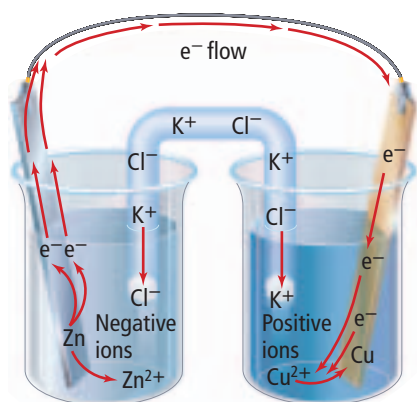

Figure 20.24
36. In Figure 20.24, identify the metal that is being oxidized. Identify the cathode.